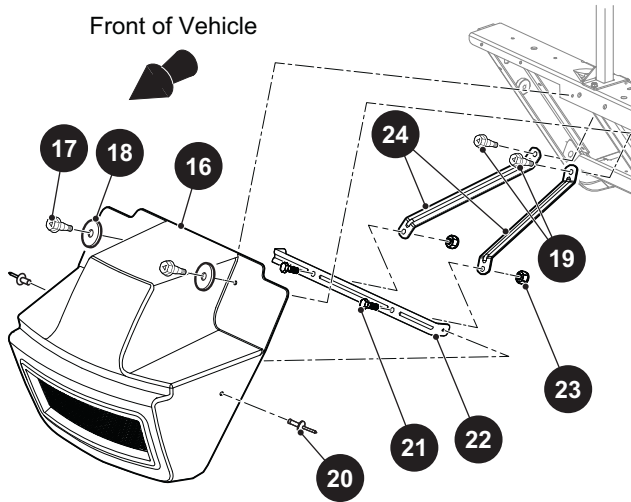

Figure 7 Front Bumper Replacement
Remove two bolts (17) and washers (18) from the front bumper (16). Then remove the two bolts (21) and nuts (23) from mounting bracket (22) (Figure 7).